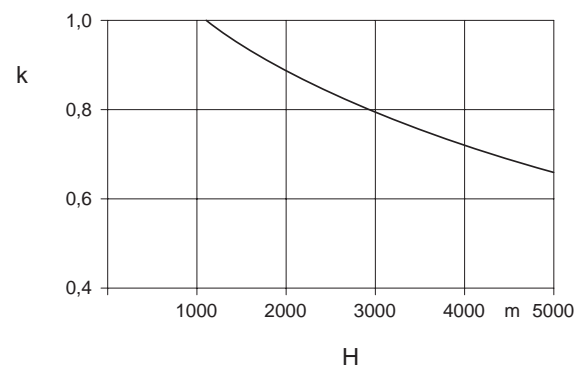

Figure 1/1: Curve for determination of the altitude factor k in relation to the altitude H .
- At site altitudes above 1000 m, the effects of the reduction in dielectric strength of the air on the insulation level are to be taken into account (please refer to diagramme figure 1/1).